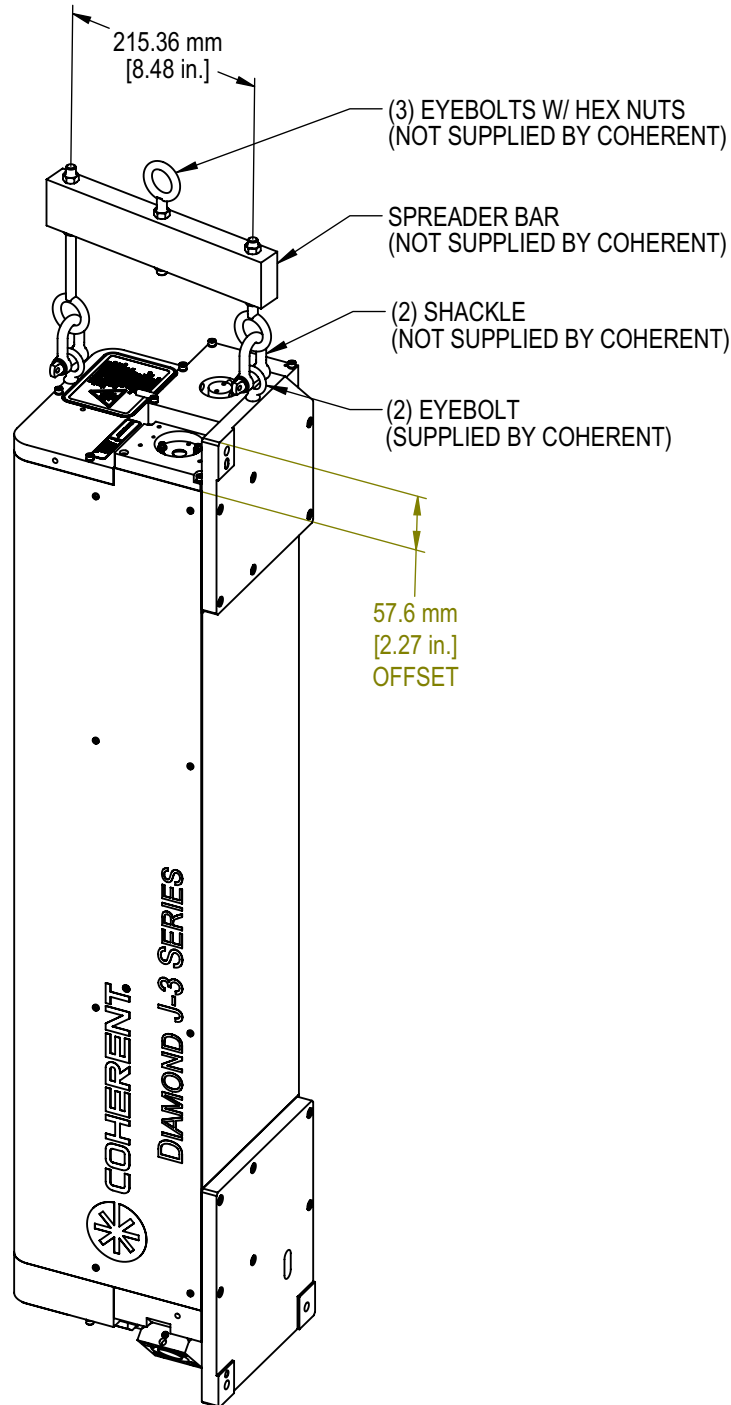

Figure 3-14. Vertical Mounting Illustration
1. Install eyebolts into screw holes. See Figure 3-13 for screw hole locations. Do NOT use the top eyebolt locations during vertical lift (refer to Figure 3-14 on page 3-32).
2. Securely connect appropriate slings or chains to the eyebolts and a user-supplied spreader bar. Chains/slings must be vertical when under load. See Figure 3-14.
3. Carefully lift the laser system while preventing the free end from moving around. See Figure 3-14.